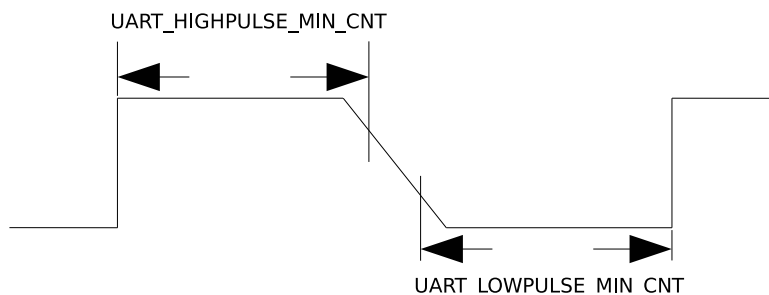

Figure 26-3. The Timing Diagram of Weak UART Signals Along Falling Edges
2. If UART signals are weak along falling edges as shown in Figure 26-3, which leads to an inaccurate average of `UART_LOWPULSE_MIN_CNT` and `UART_HIGHPULSE_MIN_CNT`, use `UART_POSEDGE_MIN_CNT` to determine the transmitter's baud rate as follows: